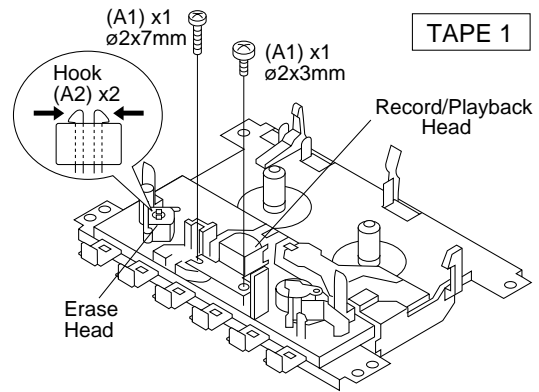

Figure 6-1
### How to remove the record / playback, playback and erase heads (See Figs. 6-1 and 6-2.)
2. Remove the hooks (A2) x 2 pcs., toward the center position as shown in Fig. 6-1. and then extract the erase head upward.